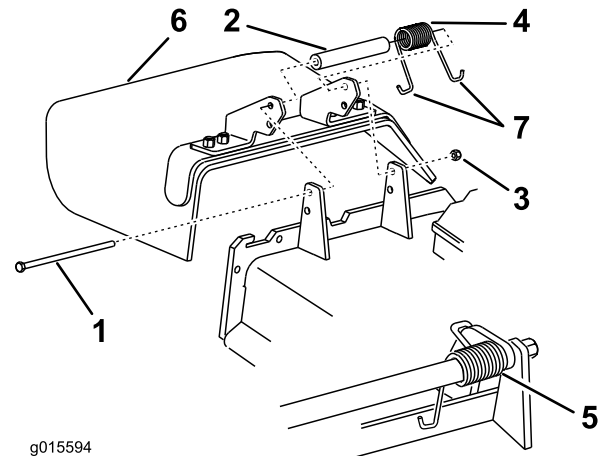

Figure 102
1. Remove the locknut, bolt, spring, and spacer holding the deflector to the pivot brackets (Figure 102). Remove the damaged or worn grass deflector.
Note: Make sure one J end of the spring is installed behind the deck edge before installing the bolt as shown in Figure 102.
3. Install the bolt and the nut. Place one J hook end of the spring around the grass deflector (Figure 102).